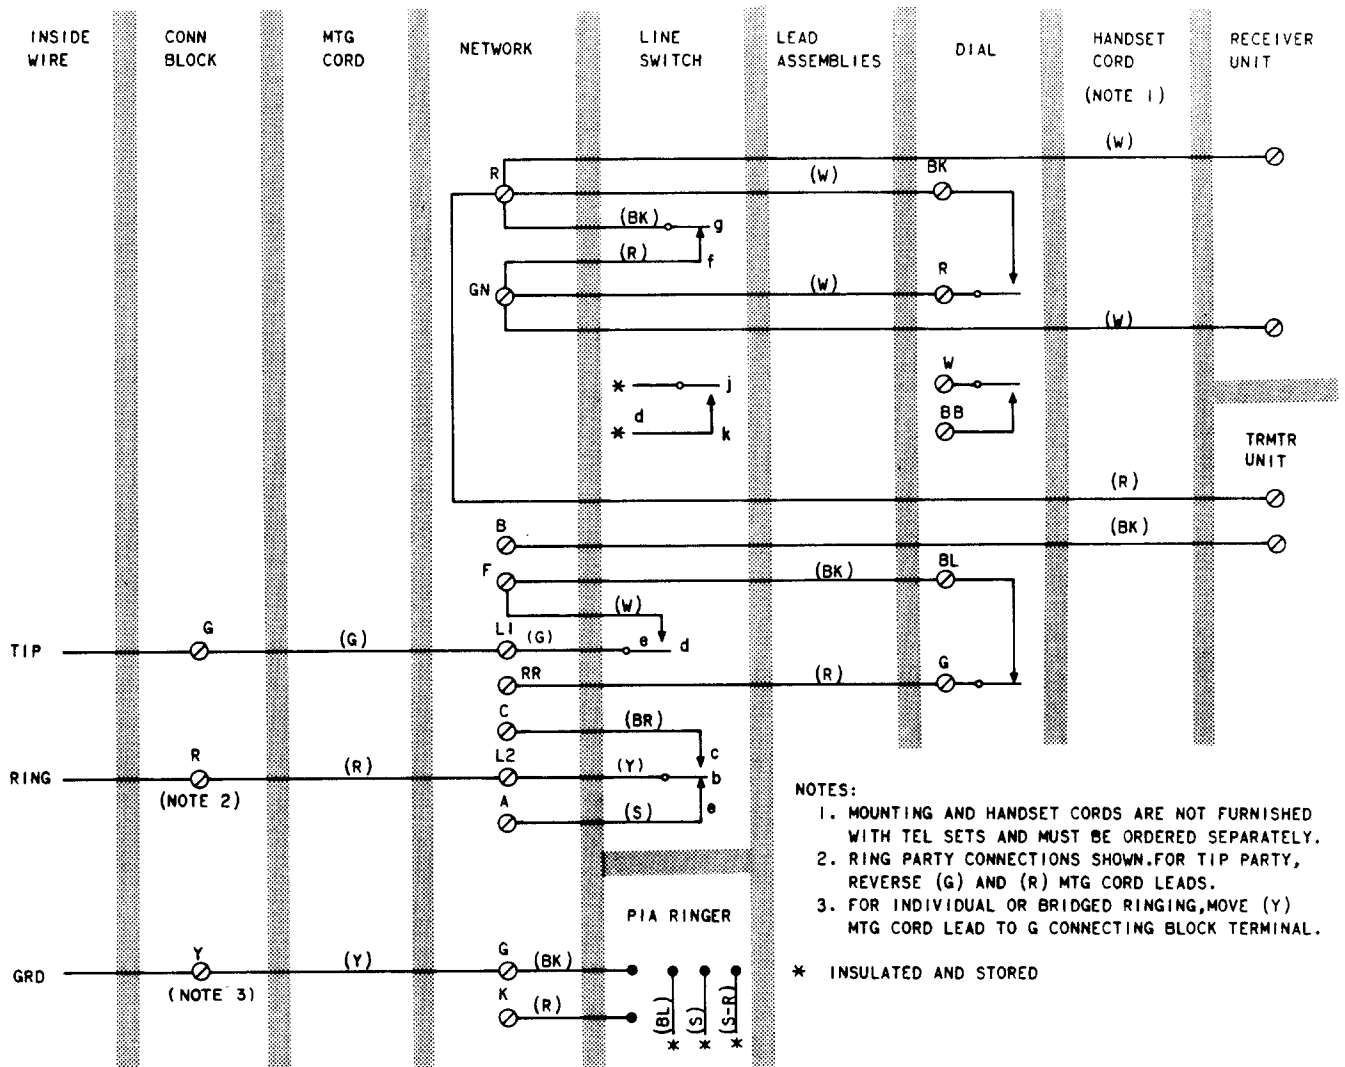

Fig. 4—F-56659 and F-56660 Telephone Set, Connections
- (2) Connect leads of mounting cord to appropriate network terminals as shown in Fig. 4.
- (2) Connect leads of handset cord to network of set (Fig. 4).
- (3) Remove receiver and transmitter caps from customer-owned handset. Insert handset leads of cord through opening in handset, guide two *white* leads through handset handle, fasten to screws of U3 or U1 (MD) receiver unit obtained from group of components.
- (4) Place receiver unit in handset cavity and replace receiver cap.
- (1) These sets are furnished wired for individual or bridged, ring, and tip party service. With minor wiring changes, set can be used for tip-party identification. Connections should be made at a suitable connecting block. Table B shows line and ringer connections. For line connections refer to Fig. 4.